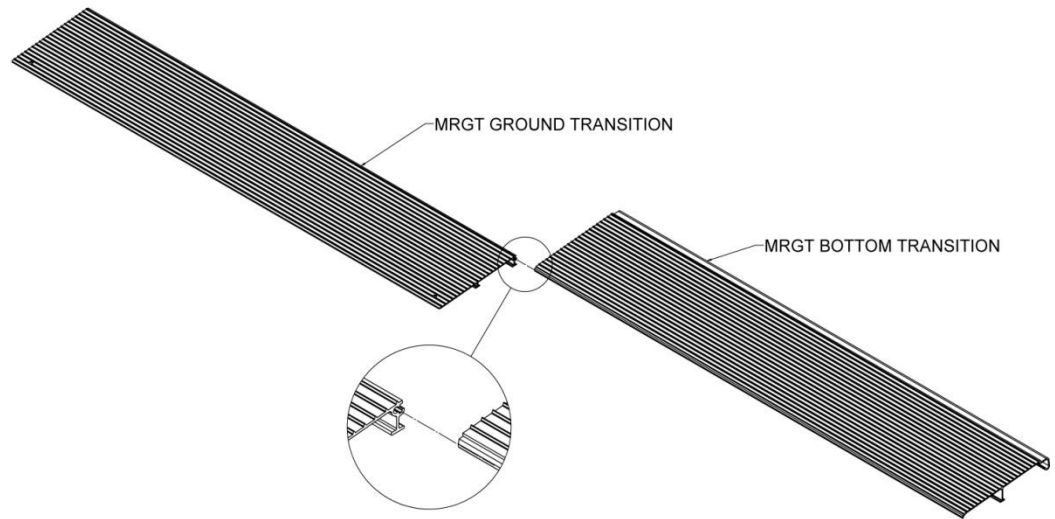
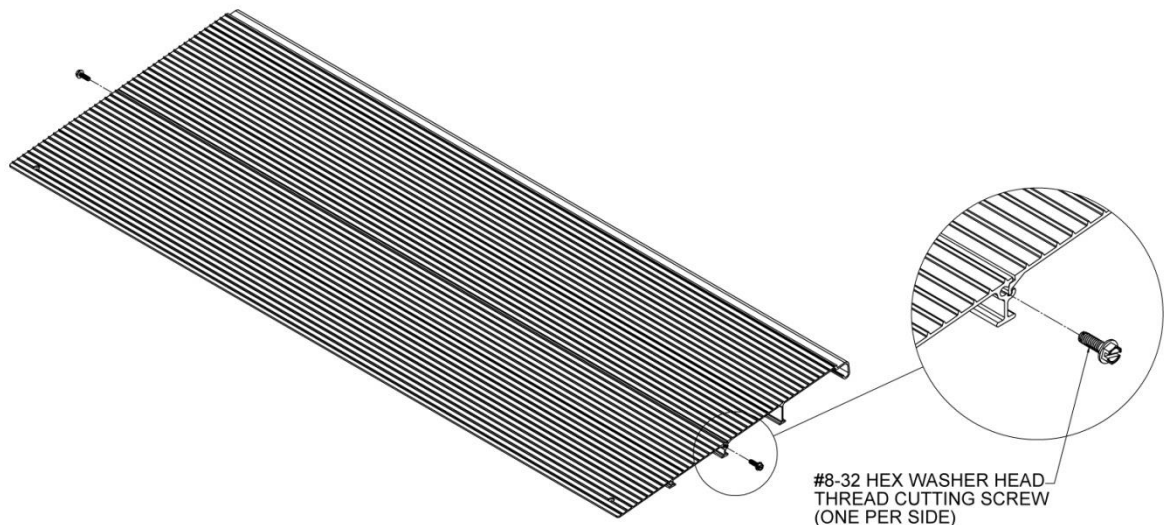

FIG. 3.10
FIG. 3.11
- 3.4.2. Pre-assemble the ground transition by first sliding the two sections together (FIG. 3.10) then install #8-32 hex washer head thread cutting screws into the screw slots on both sides where the sections intersect as shown in FIG. 3.11.